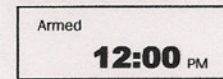

FIGURE 8
STEP 8: If you choose to continue, set run time from 1 to 30 seconds, and while repeating STEPS 3 thru 5, take note to the small number in the lower left hand corner which will indicate which of the 6 possible feedings you are setting. After finishing this step press the SELECT/ENTER button, and the screen will appear like FIGURE 8.
STEP 9: Looking at figure 8 you see the word "Armed" which indicates that your unit is now in service. It will perform the commands that you have programmed. You can test your unit by pressing the test button. (This will set up a count down from 10-9-8-----00 and at the 00 your unit will run for 5 seconds at a 100% motor speed.) *Note that the 100% motor speed is regardless of any other speed you may have set. Once you confirm that the test has successfully run, your unit is ready for use.*